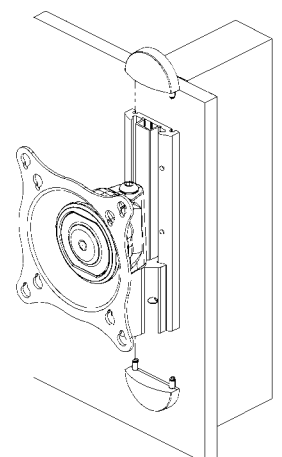

Figure 4. Install End Caps
- B. Install the end caps on the iC-SP-TP1-01 wall plate (see Figure 4).
- J. Install the end caps on the iC-SP-TP1-01 wall plate (see Figure 4).